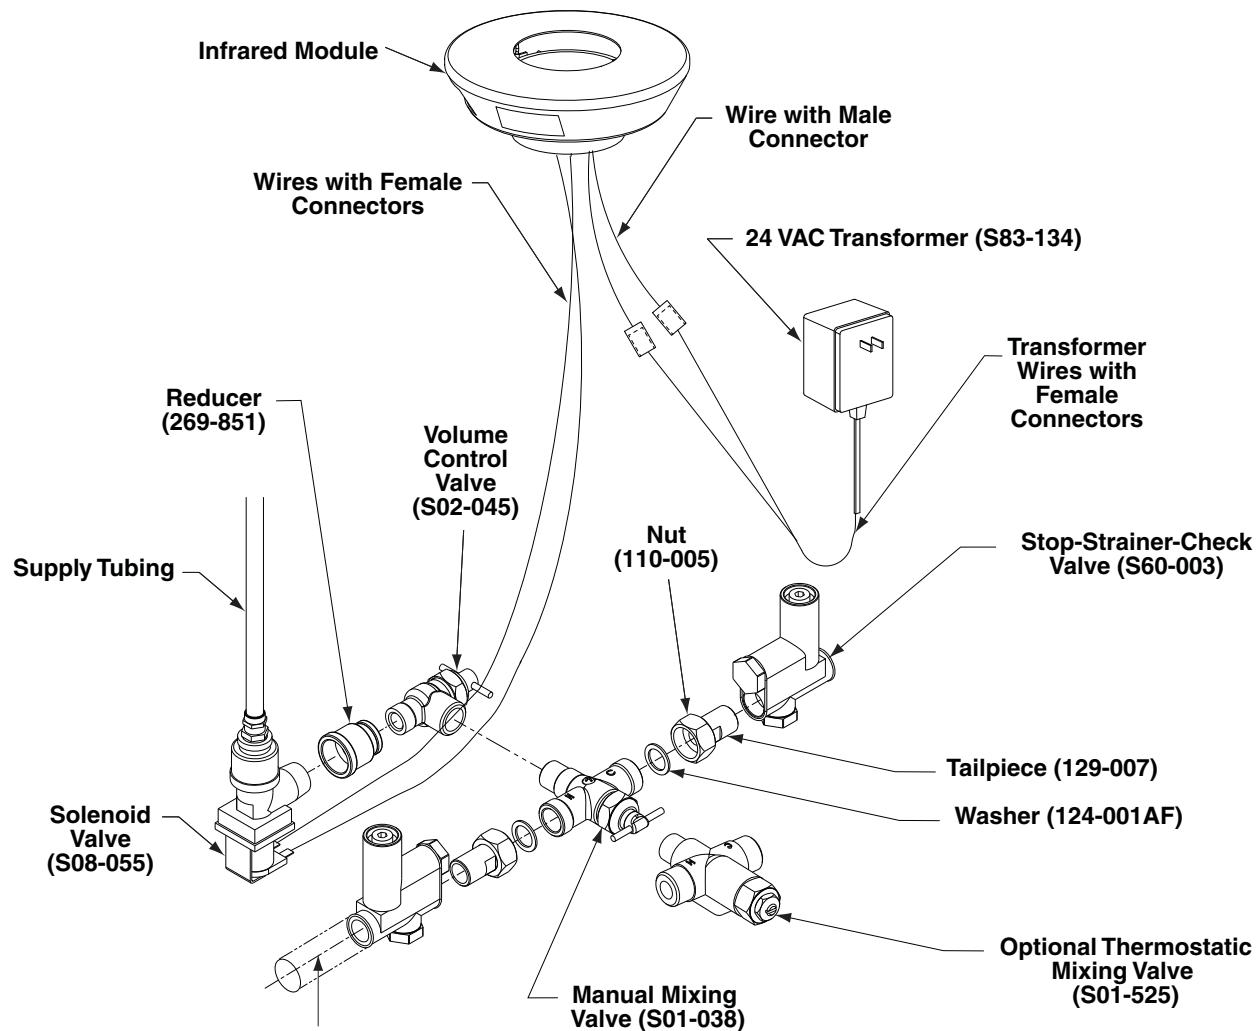

Figure 10b
1. Connect the stop-strainer-check valves, mixing valve, volume control valve, and solenoid valve assembly as shown in Figure 10b.
3. Install the valving assembly, using suitable fittings, to the supplies as shown in Figure 10b at the approximate height indicated in Table 2.
NOTE: Refer to Figure 10b on page 16 for wire connections.